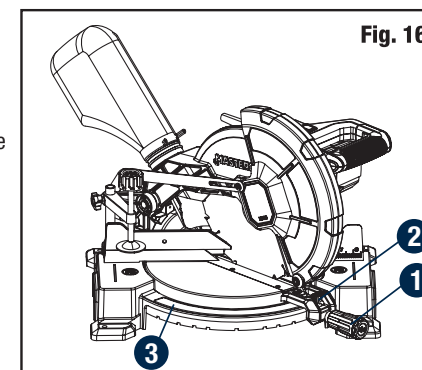

Fig. 16
**MITRE CUT (Fig. 16)**
- When a mitre cut is required, unlock the table by turning the mitre handle (1) counter-clockwise.
- While holding the mitre handle, push down on the mitre latch button (2).
- When the table is in the desired position, as shown on the mitre scale (3), release the mitre latch button and tighten the mitre handle. The table is now locked at the desired angle. Positive stops are provided at 0°, 15°, 22.5°, 31.6° and 45°.